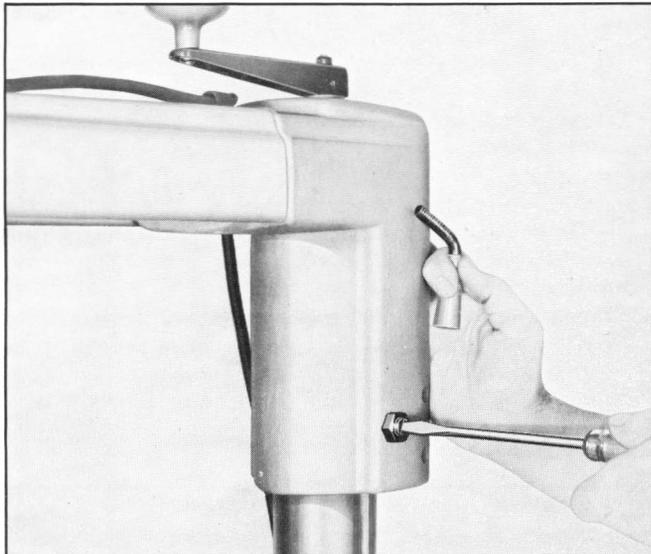

Fig. 6
1. Remove elevating lock handle, see fig. 6.